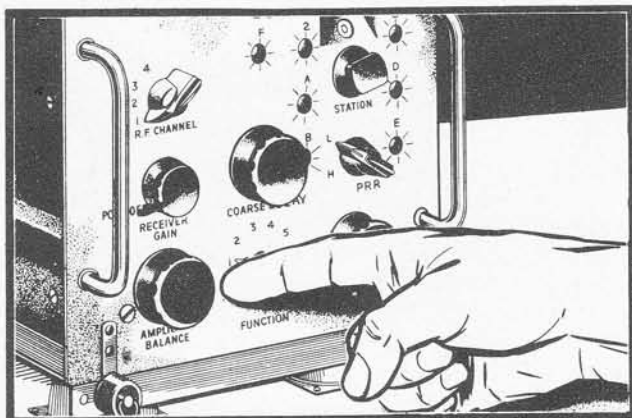

Figure 3-1
a. TO START EQUIPMENT.—Figures 3-1 to 3-4 illustrate receiver-indicator "ON" procedure..